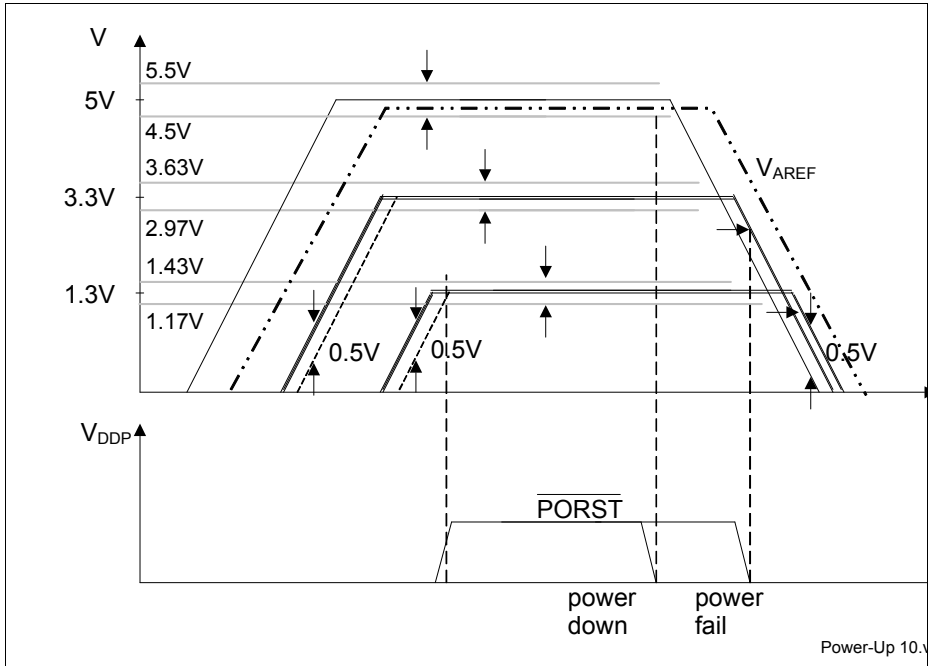

Figure 11 5 V / 3.3 V / 1.3 V Power-Up/Down Sequence
- At any moment in time to avoid increased latch-up risk, each power supply must be higher than any lower_power_supply - 0.5 V, or: $V_{DD5} > V_{DDP} - 0.5 \text{ V}$; $V_{DD5} > V_{DD} - 0.5 \text{ V}$; $V_{DDP} > V_{DD} - 0.5 \text{ V}$, see Figure 11.